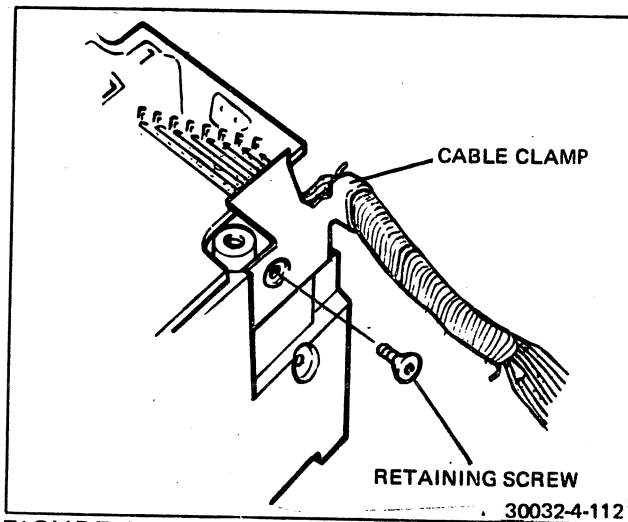

FIGURE 4-112 MULTI-WIRE CABLE CLAMP
- j. Install the cable clamp and install and tighten the screw. See Figure 4-112.